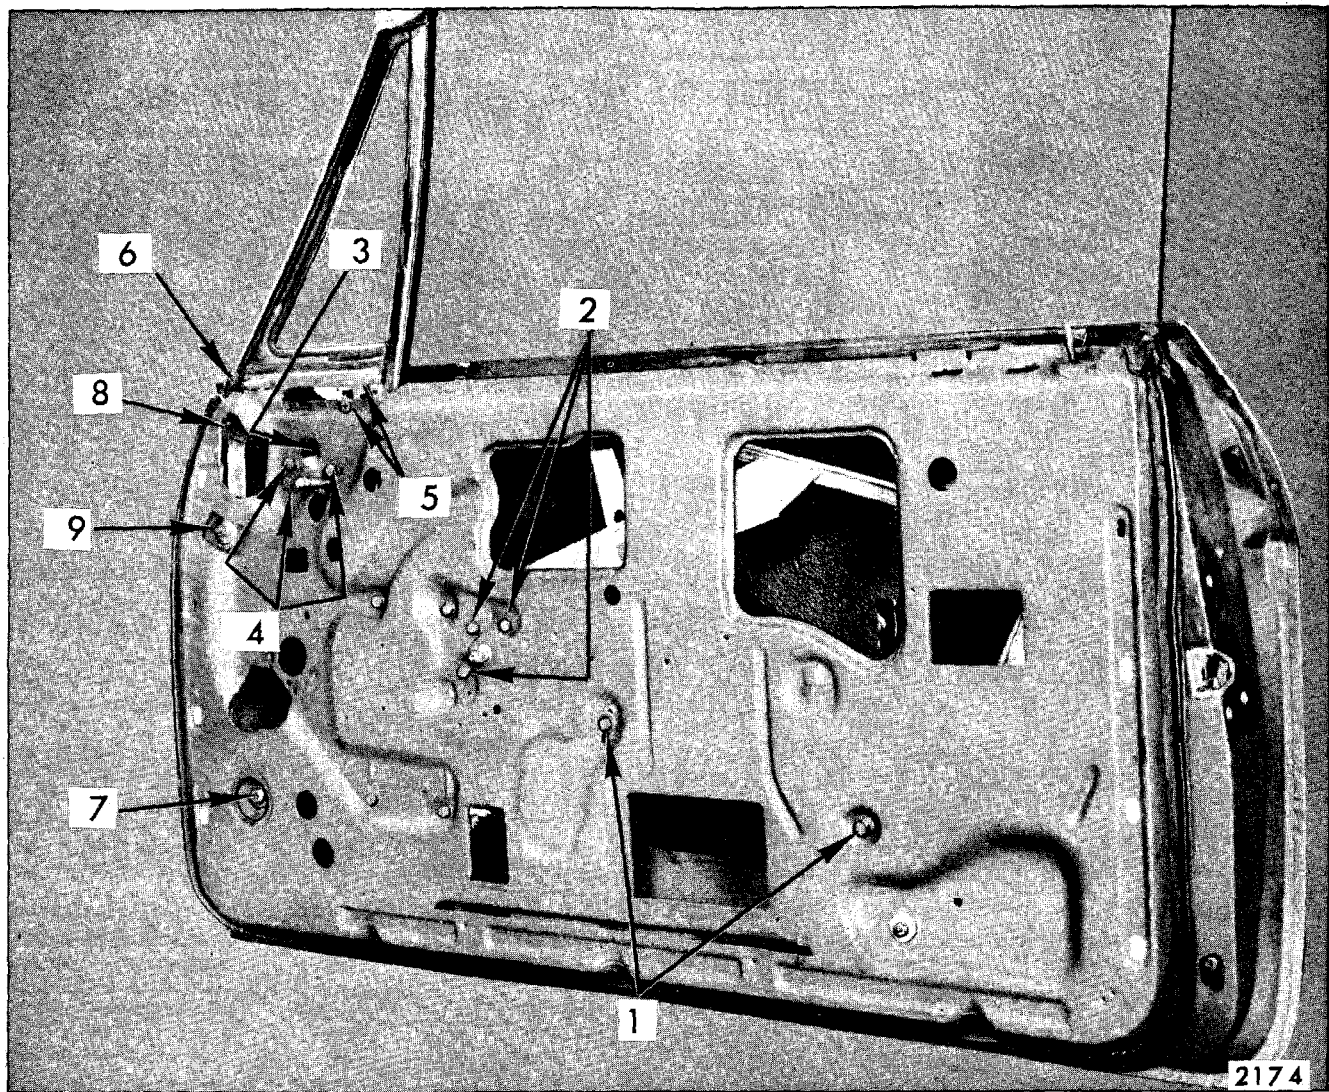

Fig. 7-59—Front Door Hardware Attachment - "B &amp; C" Styles
3. Remove ventilator T-shaft attaching bolt "3" and ventilator regulator to inner panel attaching bolts "4" (Fig. 7-59).
2. Remove screws securing ventilator lower frame to door outer panel return flange and to door inner panel ("5", Fig. 7-59).
3. At front of ventilator assembly, break cement bond between door weatherstrip and ventilator assembly ("6", Fig. 7-59).
4. Remove ventilator division channel lower adjusting stud nut ("7", Fig. 7-59).
6. Remove ventilator lower frame attaching bolt "8" and ventilator lower frame adjusting stud nut "9" (Fig. 7-59).
- a. Remove ventilator lower frame to inner panel and ventilator lower frame to outer panel screws ("5", Fig. 7-59).